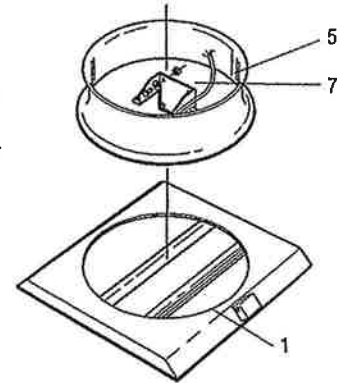

Figure 6a. Motor suspension COOL 150 and 250 series
- 7 **Figure 6a. COOL 150 and 250 series.**